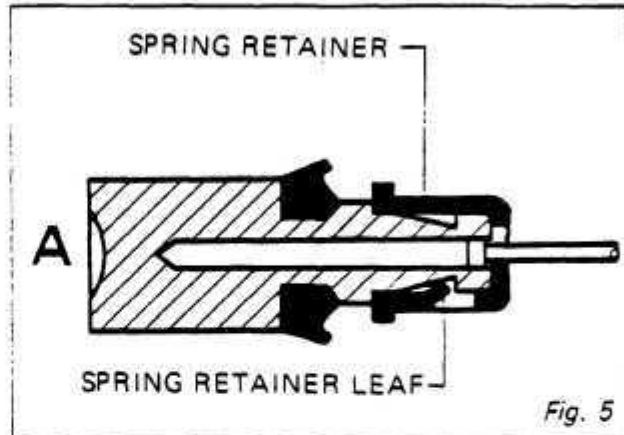

Fig. 5
5. Lift leaf on spring retainer and separate spring assembly from plunger, *Fig. 5*.